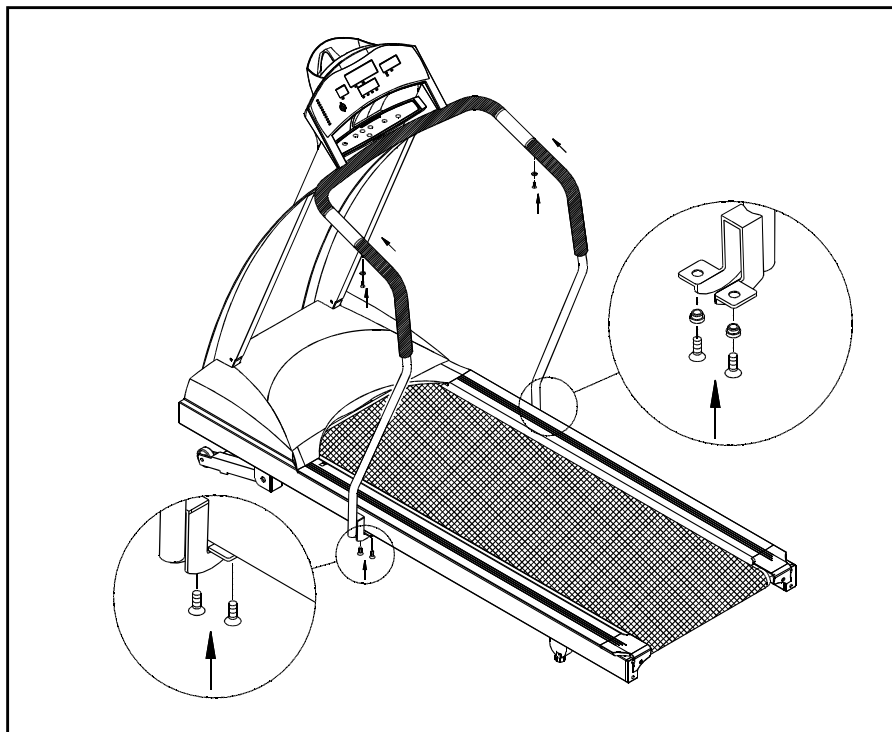

Fig.8
9. Insert the two handrails into the handlebars and then fasten the screws provided. Lastly secure the handrail clamp by fastening the screws. (see Fig. 8)
Please note: The screws to the handrail clamp (Fig.8) are specially provided by manufacturer. Do not attempt to substitute any other screws. Any questions, please contact your dealer.